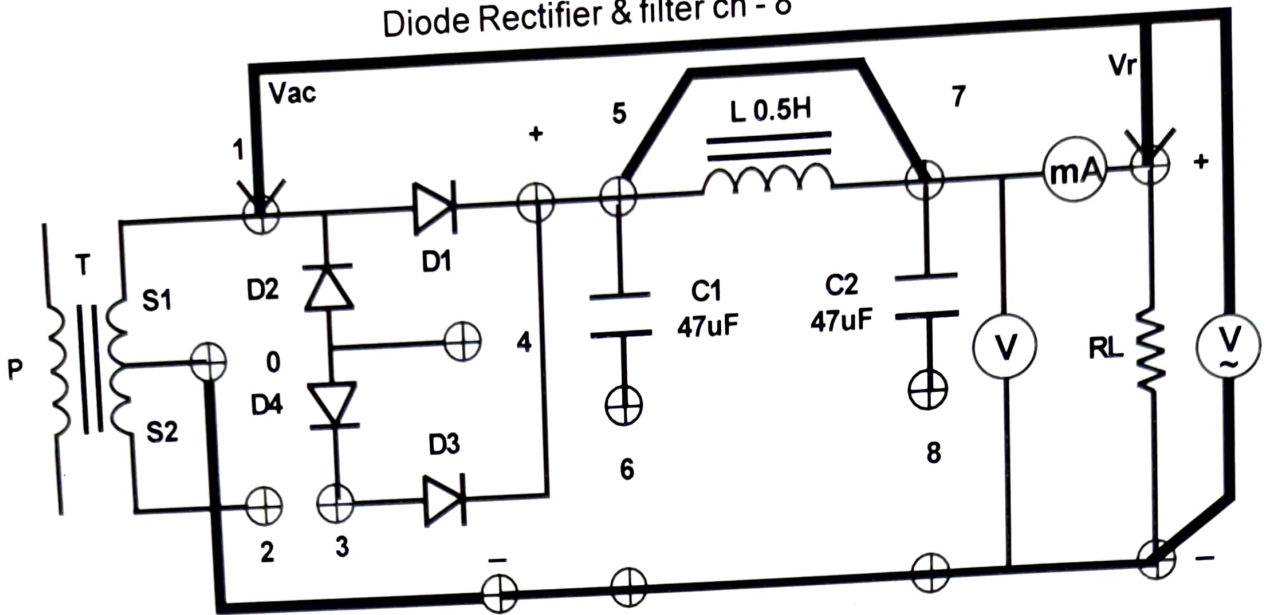

Fig 7 : Connection diagram for *half wave* rectifier circuit.
1. Connect the circuit as shown in fig 7. It becomes a half wave rectifier circuit since only diode D1 is in circuit, note L is short circuited and C open.